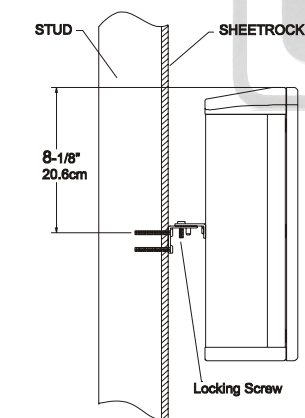

Figure 17
- Refer to figures 17 and 18 to install the appropriate Wall Bracket on the wall (orient the bracket as illustrated) using the supplied Mounting Screws. If the Flush Mount Bracket is used,